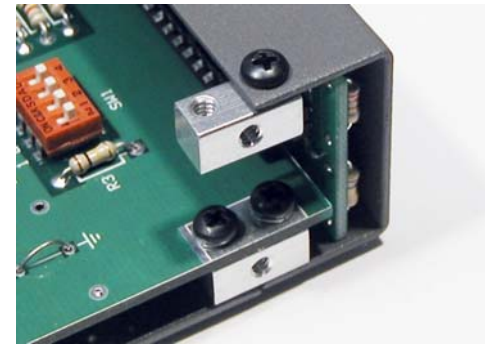

Figure 44. Attaching 2-D Fasteners to Cabinet End Covers.
- Remove paint overspray from around the screw holes on the inside surface of the cabinet back panel where the 2-D fasteners will be attached (see Figure 44). The 2-D fasteners should make good electrical contact with the back panel
Attach a 2-D fastener to the each screw hole at the top corners of the front and rear chassis end panels with 3/16" (4.8 mm) screws. Be sure the widest side of each 2-D fastener is facing toward the end of the panel so the edge lines up flush with the edge of the panel as shown in Figure 44.